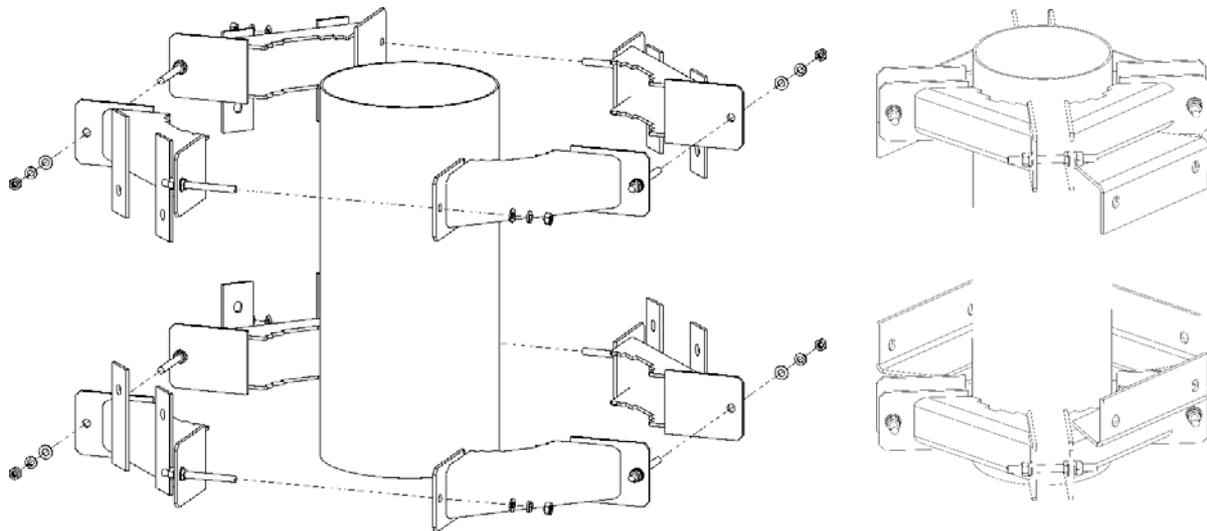

Figure 2-11: Assembling the Mounting Brackets
- 2 Assemble the mounting brackets at the desired location on the pole as shown in Figure 2-11.